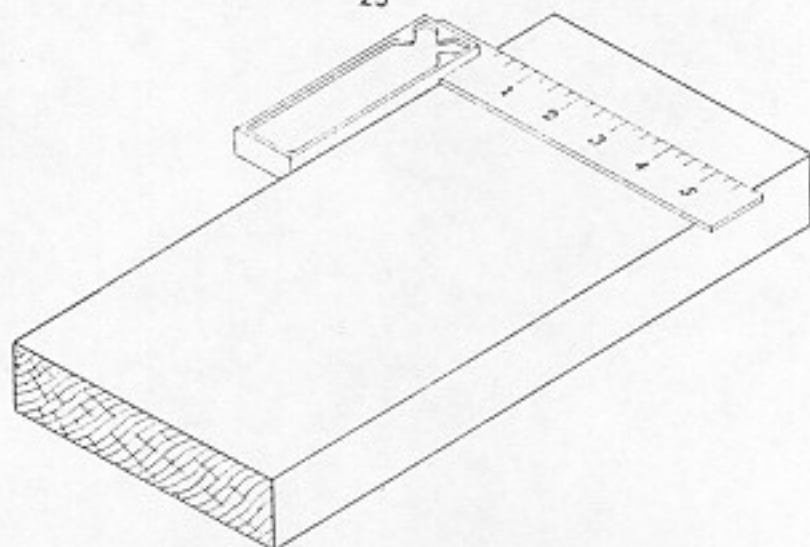
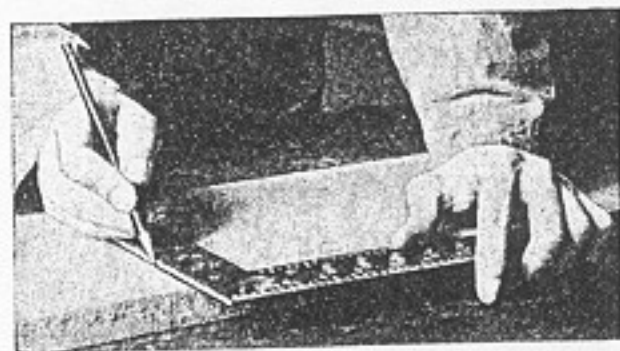

Fig. 39. Squaring a line across a board with a try-square. Handle of square held firmly against edge of board.
Fig. 40. Squaring a line across a board with a framing square.
1. The handle of the try-square is held in the left hand, it is pressed against the edge of the board, and a line is marked along its blade with a pencil (Fig. 39). If a framing square is used, its longest part, the blade, is held against the edge, and a line is marked along its shortest part, the tongue (Fig. 40). When the boards are more than 14 in. wide, the position of the square is reversed.
3. A line is squared from the working edge across the working face, holding the handle of the square firmly against the edge (Fig. 39). (See Planing Job 45.)